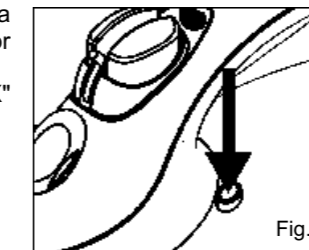

Fig.9
9. Press the self-cleaning button. (Fig.9)